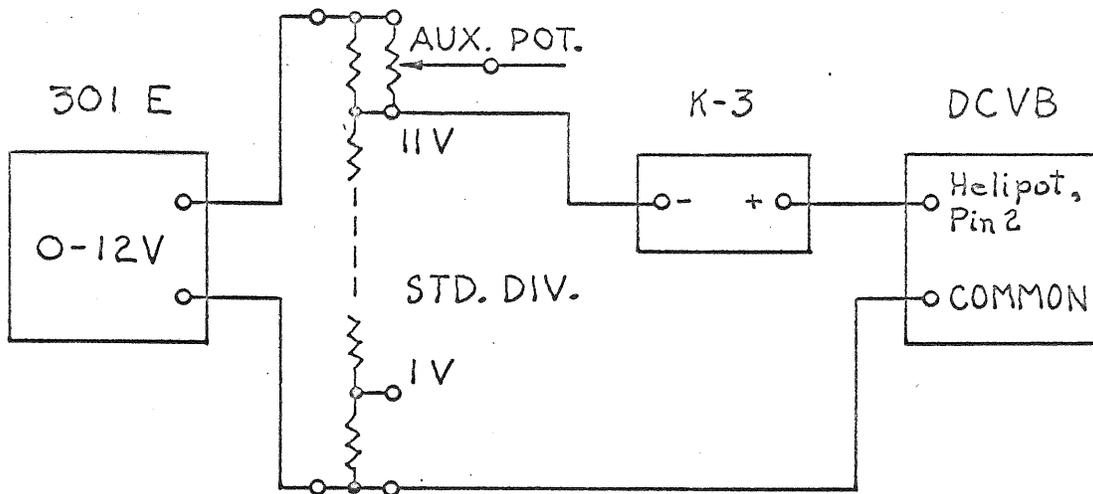

Figure 1
- 7.1 Connect Fluke Power Supply, SR1010, 1K/Step, K-3 and auxiliary potentiometer as in figure 1.